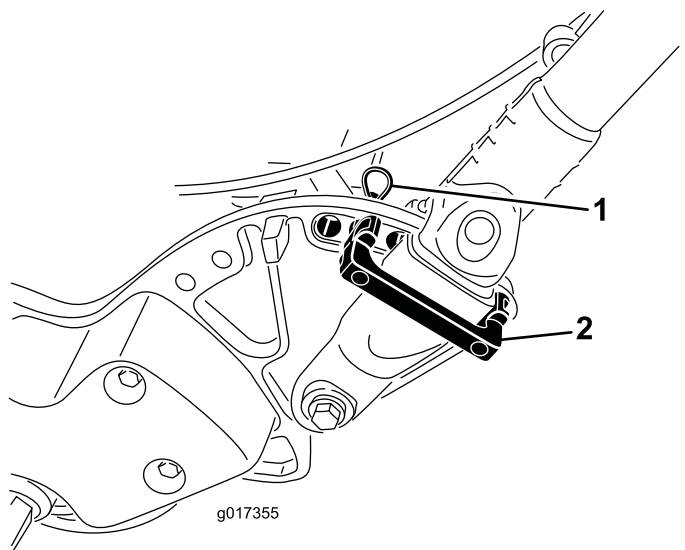

Figure 32
1. Remove the hairpin cotters from the handle retainers on each side of the machine (Figure 32).
2. While supporting the handle, remove the hairpin cotters from each side and pivot the handle to the desired operating position (Figure 32).